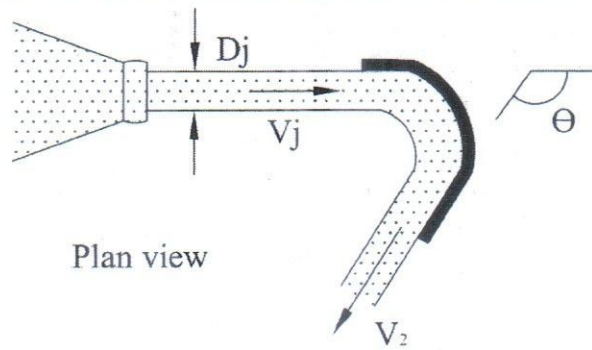

Fig.: 4
4. (a) You are asked to determine various fluid properties for a simple hydro-structure. What parameters will you suggest? Name all available devices to determine those parameters. (06)
- (b) Define jet. Water is flowing at a rate of 500 lps through a 120° V-notch. Find the position of the apex of the notch from the bed of the channel, if the depth of water from the bed of the channel is 2 m. Take $C_d=0.65$. (08)
- (c) The velocity distribution in a rectangular channel of width B and depth of flow of y_0 was approximated as $v = k_1\sqrt{y}$ in which k_1 is a constant. Calculate the average velocity for the cross section and correction factors α and β . (11)
5. (a) Refer to Fig. 4, if $\theta = 115^\circ$, and the water jet has a velocity of 25 m/s and a diameter of 40 mm, find (a) the component of the force acting on the blade in the direction of (11)